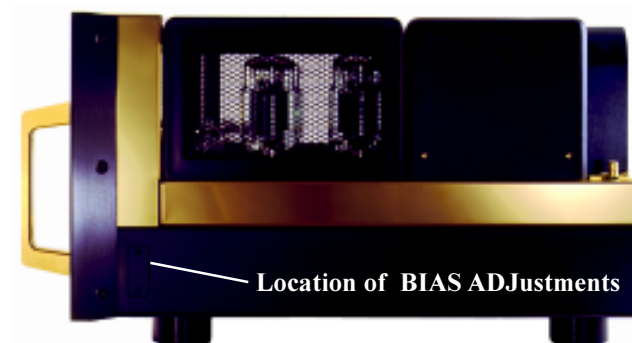

Figure 15
1. Remove the BIAS ADJUSTment Protective Covers on each side of the MC2000. Refer to figure 15.
Note: Figure 15 shows the location of the BIAS ADJUSTments for the Right Channel, which are located on the right side of the MC2000. The BIAS ADJUSTments for the Left Channel are located on the left side of the MC2000, in the same location.